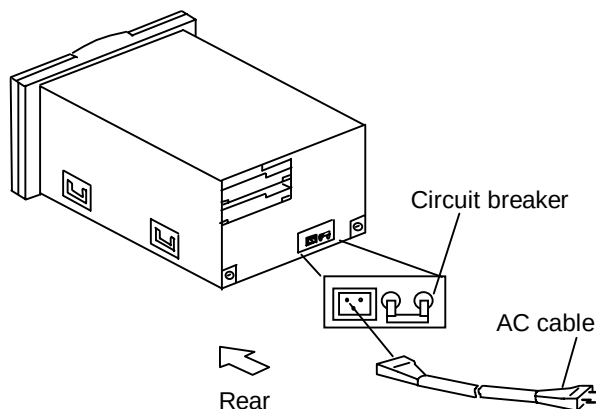
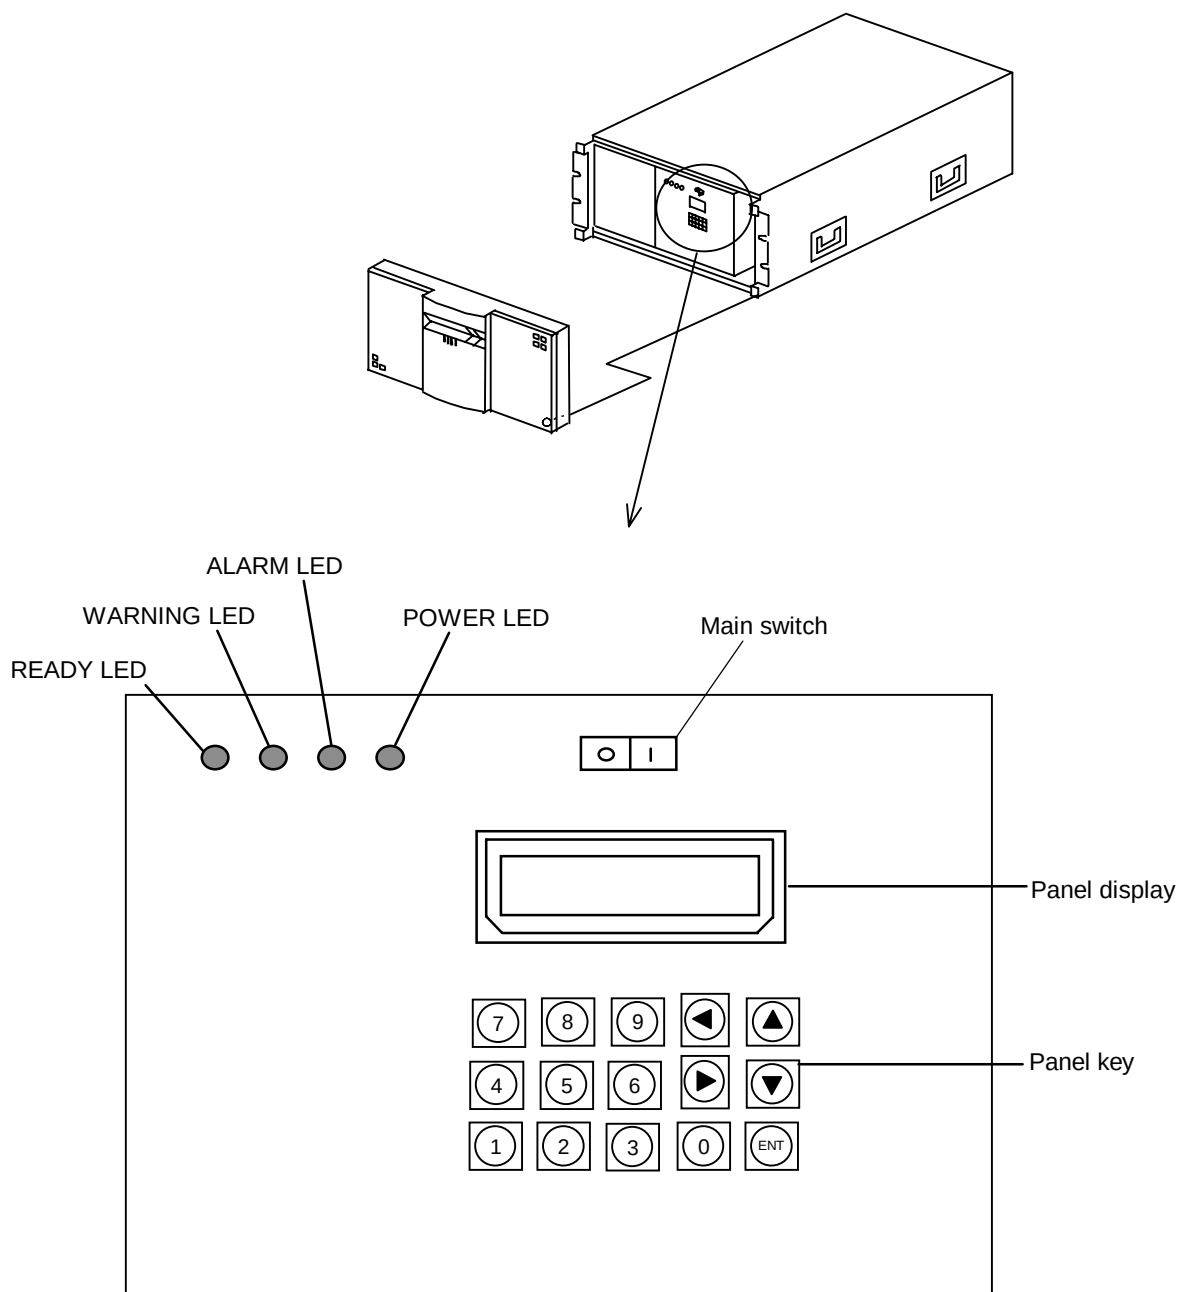

Figure 3.3.1 AC Cable Connection
Figure 3.3.3 Panel
- (1) Verify that the breaker (switch at the rear side) is set to "O" (Off). Remove rear cover and turn on the power switch of the battery. (See Figure 3.3.1.)
- (3) Install rear cover. Then, attach AC cable. (See Figure 3.3.1.)
- (4) Turn on AC power.
- (5) Turn on the main switch. (See Figure 3.3.3.)
- (6) Make sure that the subsystem becomes ready a few minutes later.